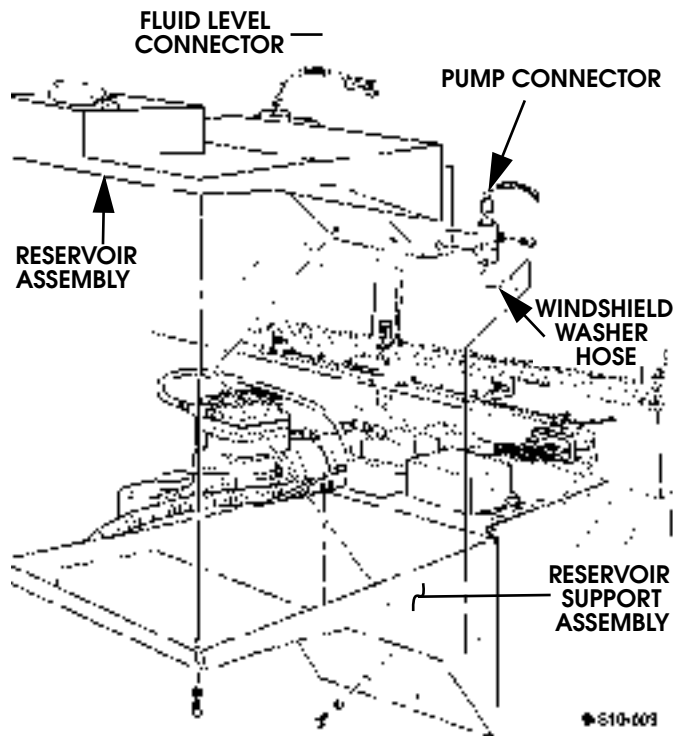

Figure 10-111: Windshield Washer Fluid Reservoir and Pump Replacement
3. Disconnect pump connector from reservoir and pump assembly (Figure 10-111).
2. Secure reservoir assembly to reservoir support assembly with four lockwashers and bolts. Tighten bolts to 8 lb-ft (11 N•m) (Figure 10-111).